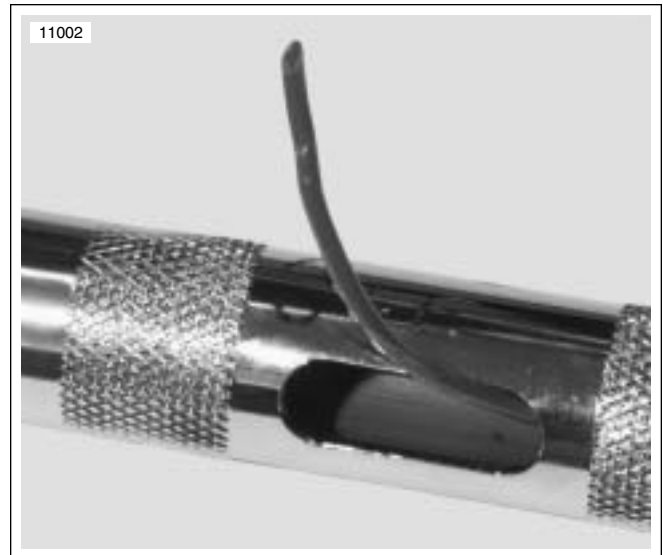

Figure 8-9. Wire Leader in Handlebars (typical)
14. See Figure 8-9. Leave the wire leader in each handlebar half.